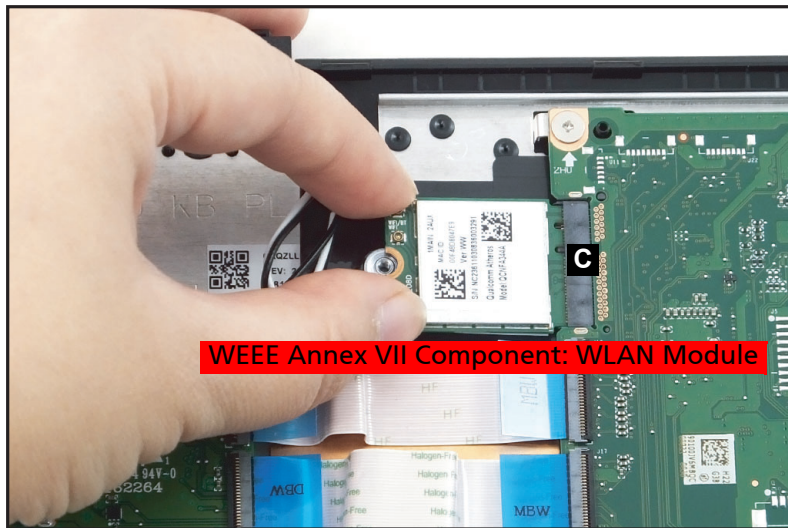

Figure 1-17. WLAN Module Removal
4. Remove the WLAN module from the mainboard connector (C) (Figure 1-17).